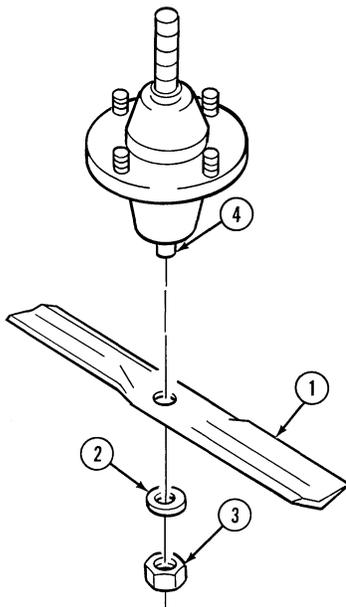

Figure 15
3. Remove the nut (4), Figure 15, securing the mower blade and remove the washer (3), blade (2), and fiber washer (1).
1. Install the blade (1), Figure 15, flat washer (2), and nut (3), on the spindle (4).